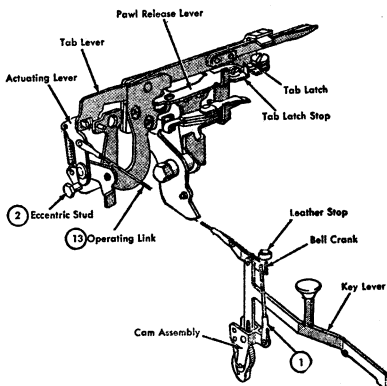

Figure 22. Tabular Mechanism
5. **TKO LINK.** Before adjusting the TKO link, the height of the tab lever should be properly set to clear the margin rack by .010" to .015" as outlined in the *Tabular Mechanism* section, adjustment 2 (Figure 22). Adjust the TKO link so that, with the clutch locked, the left margin stop will con-
The carriage begins to move to the left under tension of the main spring until the tip of the tab lever strikes a set tab stop. This forces the tab lever over to the left and allows it to become disengaged from the tab latch. Now the tab lever begins to restore to its rest position, allowing the pawls to re-enter the escapement rack. The rebound check lever moves into place to the right of the set tab stop as the tab lever is forced to the left. It is now in a position to block any movement of the carriage toward the right as the carriage tends to rebound. When the tab lever restores to rest, it moves the rebound check lever to rest (Figure 22).
1. CAM CLEARANCE. Adjust cam clearance to the power roll so that the cam release lever will drop behind the cam lug when tripped with the power off. Be sure the leather stop of the tab bell crank is touching the underneath side of the key lever spring support when this adjustment is observed (Figure 22).
2. TAB LEVER HEIGHT. Adjust height so that it will just clear the under side of the margin rack by .010" to .015". This adjustment is made by means of the eccentric stud on which the tab actuating lever rests (Figure 22).
13. TAB OPERATING LINK. Adjust so that when the cam is on its high point, the tab lever will over-throw the tab latch by $.010$ " to $.020$ " to insure that the latch will move into place (Figure 22).